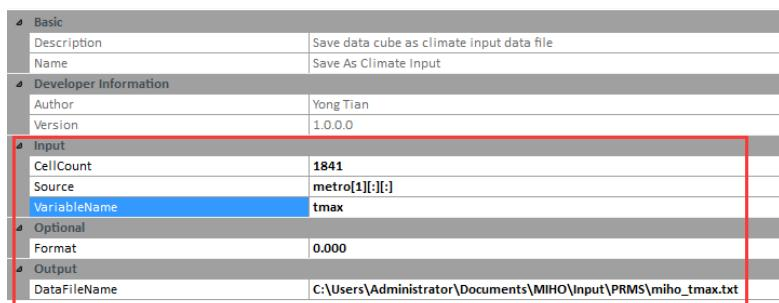

Figure 6-7 Settings used to generate Maximum Temperature input file.
- 9) Change input and output of the Save As Climate Input tool according to Figure 6-7 to save Maximum Temperature input file.